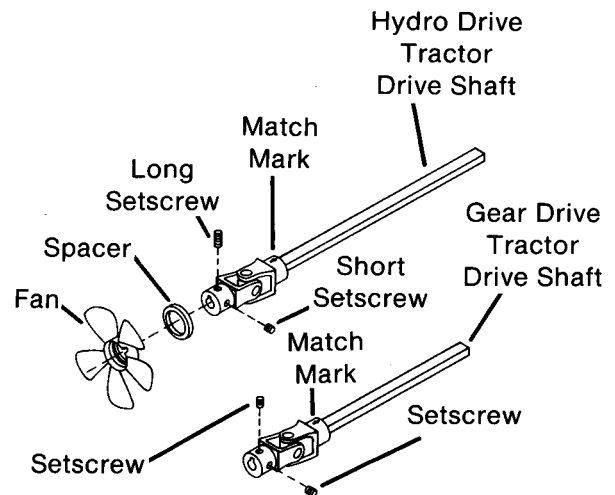

FIG. 5
- J. (Gear Drive Tractors Only) Loosen two setscrews on rear of drive shaft. (Fig. 5)
(Hydro Drive Tractors Only) Remove one long setscrew thru notch in fan hub on rear of drive shaft. Rotate fan to expose second short setscrew, loosen setscrew. (Fig. 5)
NOTE: Drive shaft is a balanced assembly and **must** be reassembled the same way it was removed. Match marks (arrows) are stamped into both front and rear universal joints, if chalk marks are not made, to insure proper reassembly. (Fig. 5)
- K. (Gear Drive Tractors Only) Loosen two setscrews on rear of drive shaft. (Fig. 5)
- E. (Gear Drive Tractors Only) Loosen two setscrews on rear of drive shaft. (Fig. 5)